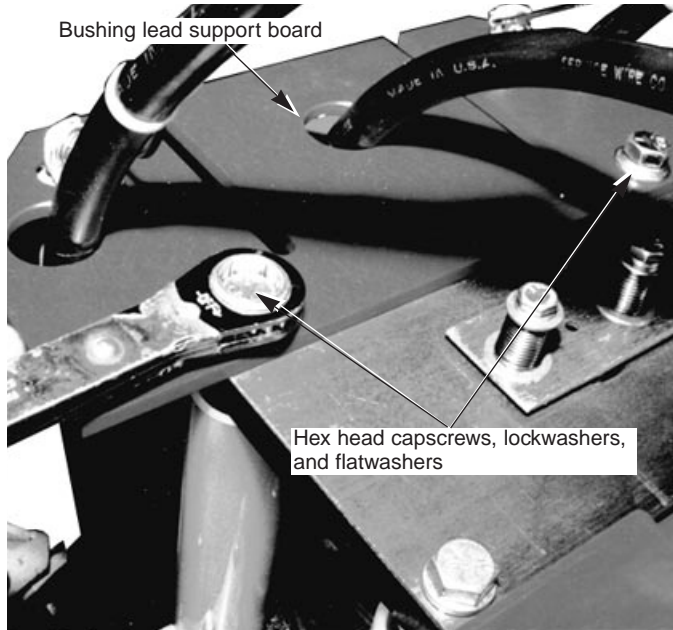

Figure 8.
8. Remove the two hex head capscrews, lockwashers, and steel flatwashers from the bushing lead support board (refer to Figure 8).